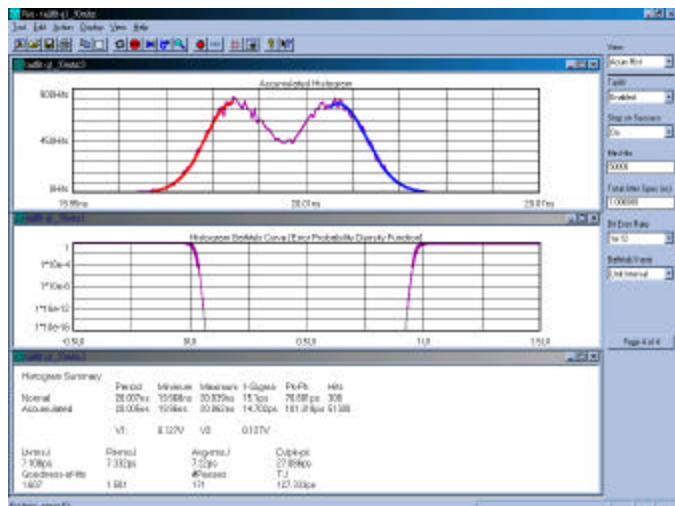

Figure 9. Multiple Views
Simultaneously displays multiple views/plots from one tool. When chosen, a new window opens and becomes active. The view / plot appearing in the window is based on the same data from the tool from which the view was added. To change the view, use the Page Up / Page Dn buttons on the keyboard or use the mouse to select a view. See Figure 9.
- Go to the top tool bar and use the "New view" button  to add a "summary view" for the tool. Use the Page Up / Page Dn buttons to select the statistics view. Refer to Figure 9 for an example of a typical plot layout using the histogram tool.